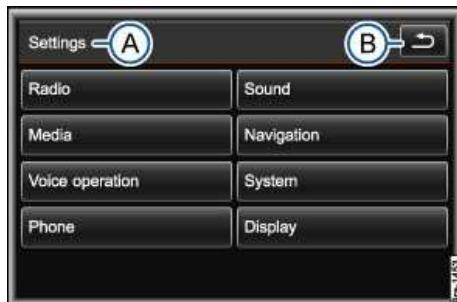

Fig. 132 Setup main menu (SETUP).
Function keys start functions or open submenus. In submenus the name of the currently selected menu is displayed in the title bar ⇒ fig. 132 (A).